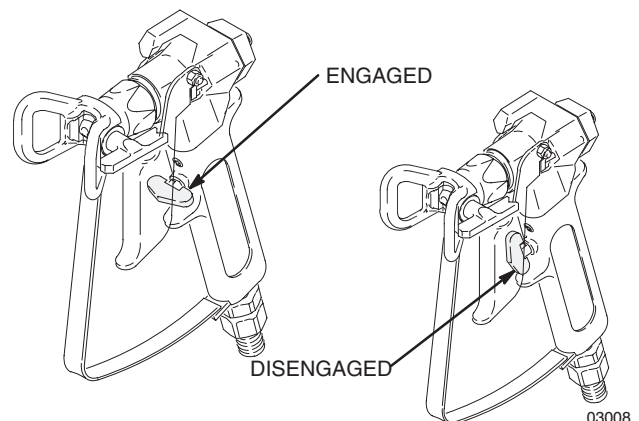

Fig. 1
1. To engage the gun trigger safety, turn the latch to a right angle with the gun body. See Fig. 1.
1. Connect a grounded fluid hose to the gun inlet. See Fig. 1.
3. Follow the **Pressure Relief Procedure** on page 5. Be sure the gun trigger safety is locked. See Fig. 1.